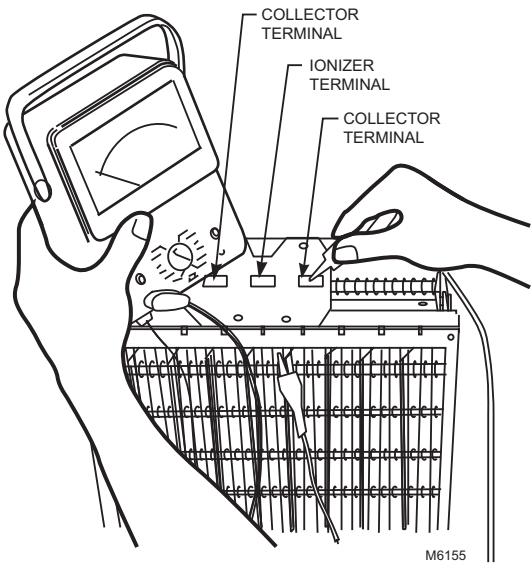

Fig. 16. Use ohmmeter to check electronic cells for short circuits.
3. Check the cell for short circuits using an ohmmeter; see Fig. 16. Check the resistance between the frame of the cell and both the ionizer and the collector contacts. In each case, the resistance should be infinite.